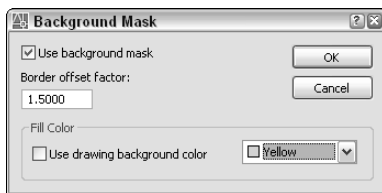

Figure 13-17: Use the Background Mask dialog box to create a background around your text so that other objects do not obscure the text.
- ♦ **Background Mask:** Opens the Background Mask dialog box, shown in Figure 13-17. This feature creates a background around your text that covers other objects so that you can easily read the text. Check the Use Background Mask check box. Specify a border offset factor to create a margin around the text. The default margin setting of 1 does not create any margin. Then check the Use Drawing Background Color check box to use the color of your drawing screen, or choose another color from the drop-down list. Click OK.